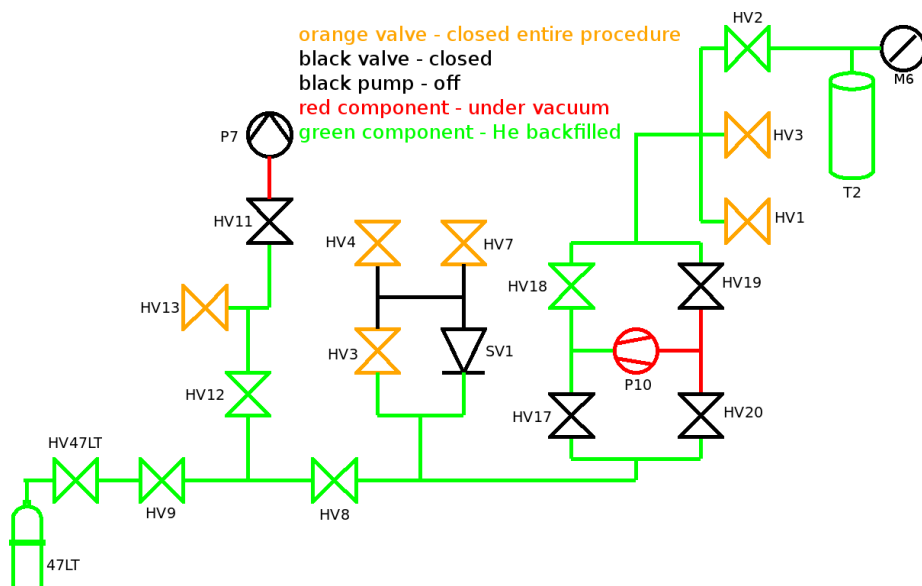

Figure 5: Open/close appropriate recovery valves, then turn on P10.
5. Figure 5: close valves HV19 and HV20 and open valve HV18, then turn on P10.